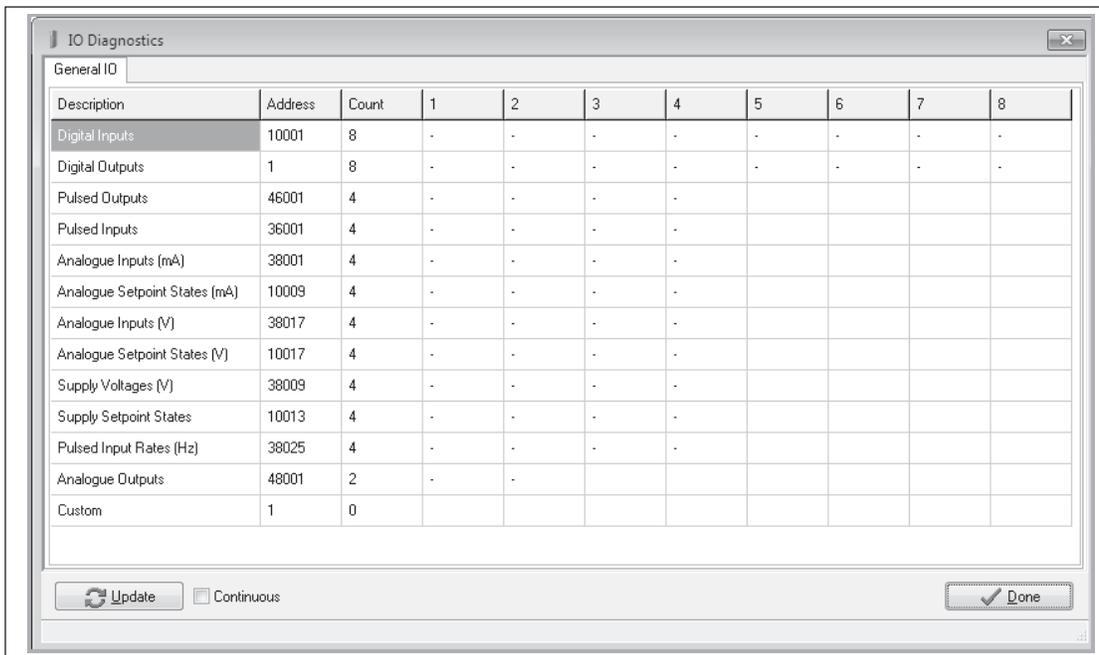

Figure 35. IO diagnostics
- IO Diagnostics** Allows you to view the internal registers for the selected module unit (see **Figure 35**).